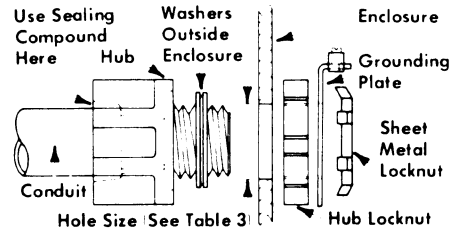

Figure 6
- Install hub in hole using hub locknut making sure the two polypropylene washers with a metal washer between them are in place in the recess in the hub end and are against the outside surface of the enclosure. Fasten hub securely in place using hub locknut. Use sealing compound around conduit in outer part of hub. (See Figures 6 and 7 and Table 3.)